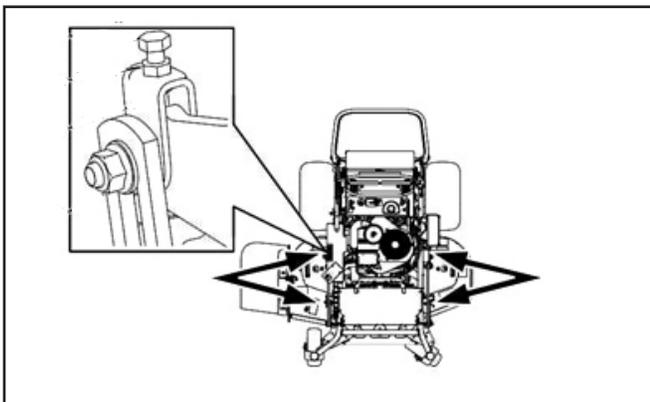

Figure 35
5. Verify the deck is level side to side by measuring at the blade tips (Figure 35).